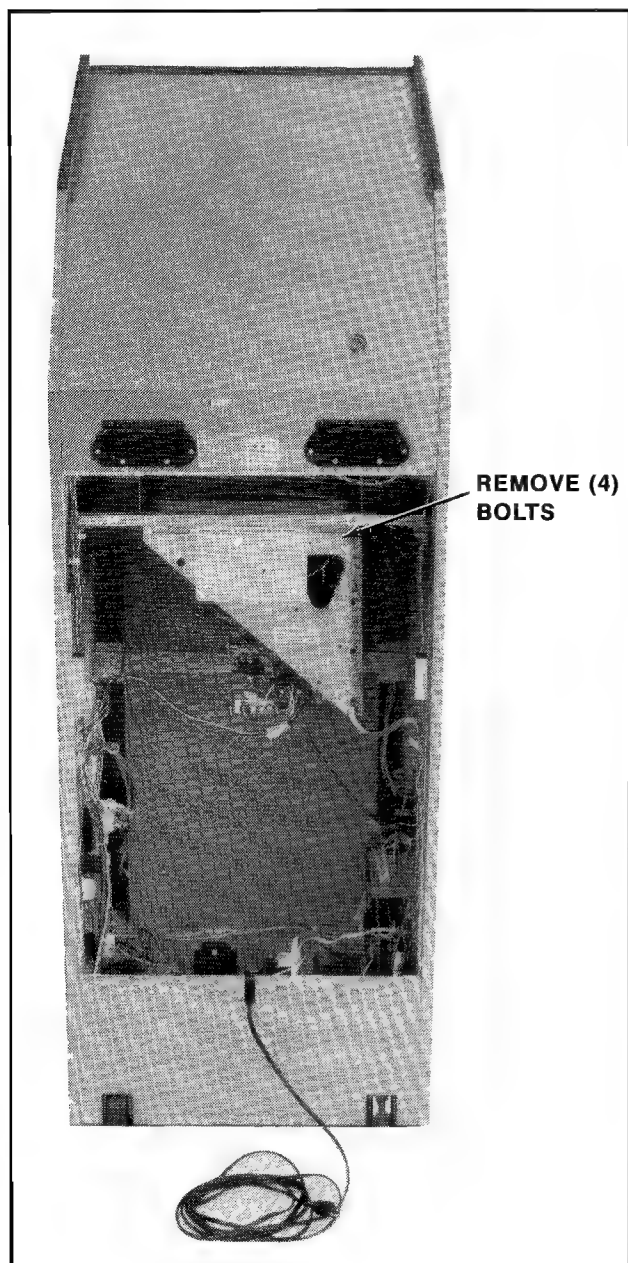

Figure 3-8 Removing the Monitor — Upright
1. UPRIGHT MODEL: See Figure 3-8.